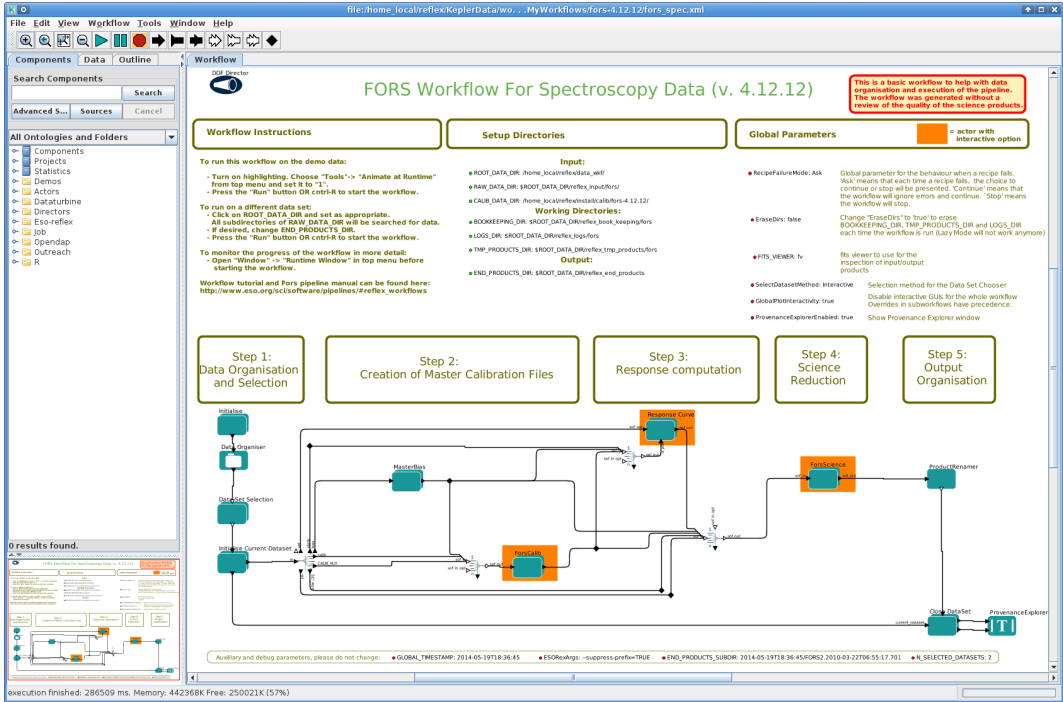

Figure 4.2: FORS2 workflow general layout.
2. Now open the FORS2 workflow by clicking on **File** -> **Open File**, selecting first `fors-5.0.0` and then the file `ForsSpec.xml` in the file browser. You will be presented with the workflow canvas shown in Figure 4.2. Note that the workflow will appear as a canvas in a new window.